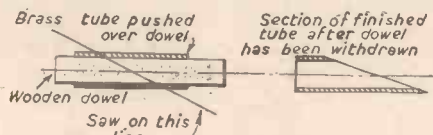
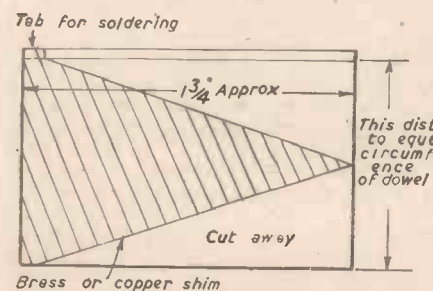

Fig. 1.—Three stages in making the contact drum. The completed drum is shown on the left.
Fig. 2.—A simpler way of making the contact drum and (right, below) the drum arrangement shown diagrammatically.
dowel should then be removed and replaced by a further length which has previously been drilled to take a length of $\frac{1}{16}$ in. diameter rod. A tight fit is required. When finished the drum should resemble the sketch Fig. 1. A simpler job can be made by cutting a wedge-shaped piece of brass or copper shim and rolling this round the dowel. The joint should be overlapped slightly and soldered, but care should be taken to make the bump at the joint as small as possible (see Fig. 2).
Obtain a piece of thin-walled brass tubing about $\frac{1}{16}$ in. outside diameter by $\frac{1}{2}$ in. long and turn a piece of dowel so as to be a tight fit in the bore. The tube should be cut as shown in Fig. 1 and the edges filed smooth. The
r.p.m. If for any reason this speed is not produced the pulley size should be altered or a resistance put in the motor circuit to reduce its speed. Alternatively the simpler method drawn in Fig. 2 can be used, where the elastic band drives directly on the pulse drum.